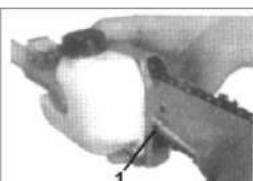

Fig. PP6
3. Lift the nose of the guide bar while turning the chain tensioning screw. See Fig.PP6